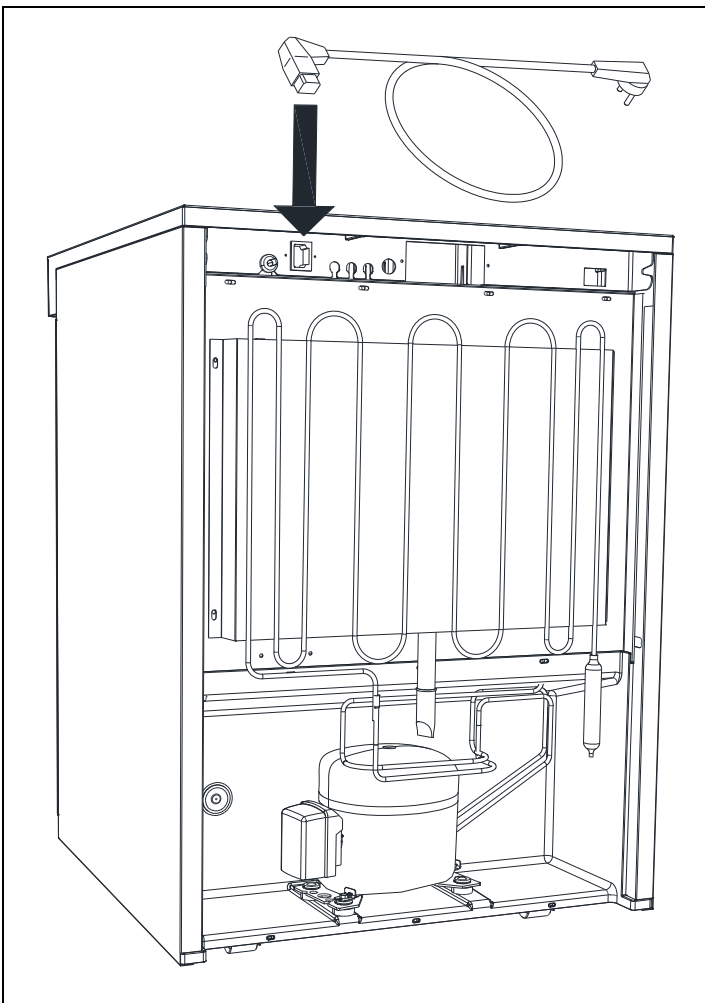

Fig. 8
The cabinet is intended for connection to alternating current. The connection voltage (V) and frequency (Hz) are shown on the name plate in the cabinet (see Fig. 12). Only the supplied detachable cord is to be used (see Fig. 8).